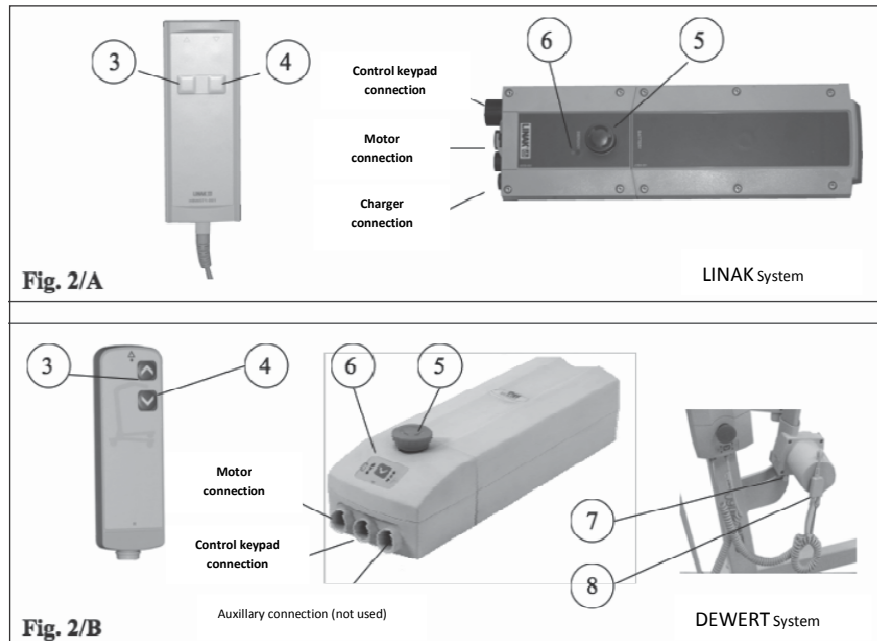

Fig. 2 Lifting and lowering of the GEMINI electric version
**IMPORTANT** In the DEWERT motorisation version, there is an inhibition device (8) placed directly on the cable of the engine (Figure 2/B). This device consists of a metal key inserted in a small box. In the condition in which the key is inserted the machine works properly, in a condition in which the key is not inserted the machine remains inactive. In this case there will be the lighting of the leds and the internal activation of the controller to press the control buttons, but the engine will remain inactive. This device allows the inhibition of the lifter in the event of absence of authorised personnel in the event that it is necessary to have them.